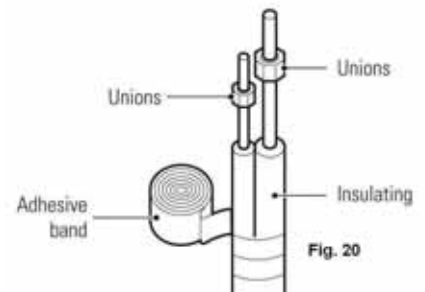

Fig. 20
- Before flaring the pipe, it is necessary to insulate it and insert the unions on the pipe (fig. 20).
- Use an insulating pipe in closed cell expanded plastic, water and vapour-proof and with a thickness no less than 9 mm (fig. 20).